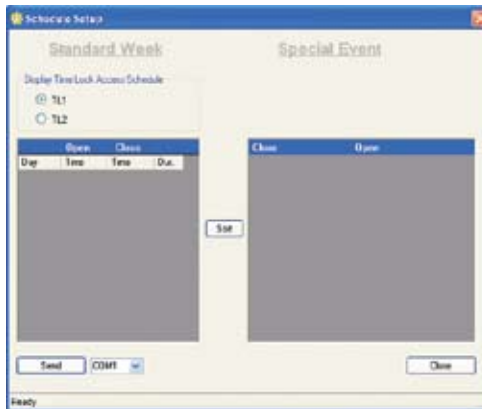

Figure 37
- By right clicking the cursor in the gray box in the Standard Week screen, select **Add**, **Delete** or **Delete All** (Figure 37).